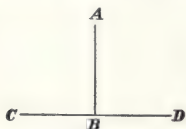

FIG. 8.
**26.** When these adjacent angles,  $ABC$  and  $ABD$ , are equal, as in Fig. 8, they are called **right angles**.